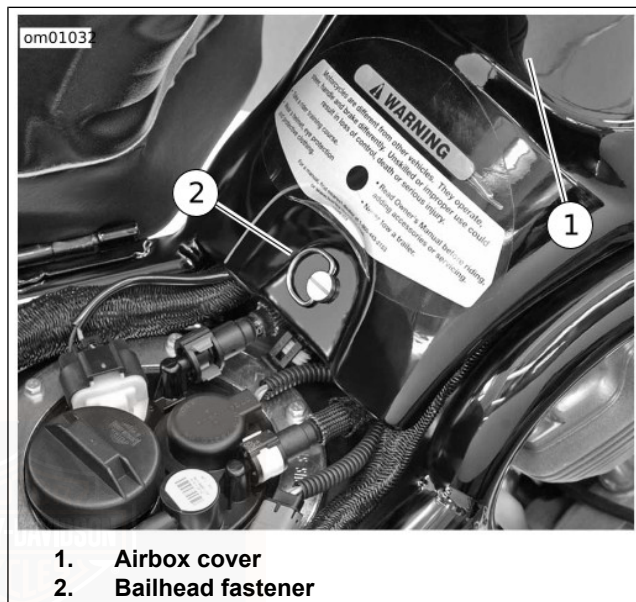

Figure 32. Airbox Cover: VRSC Models
3. See Figure 32. Remove the airbox cover by turning the bailhead fastener 1/4 turn counterclockwise. Pull the airbox cover away from the front locating holes.